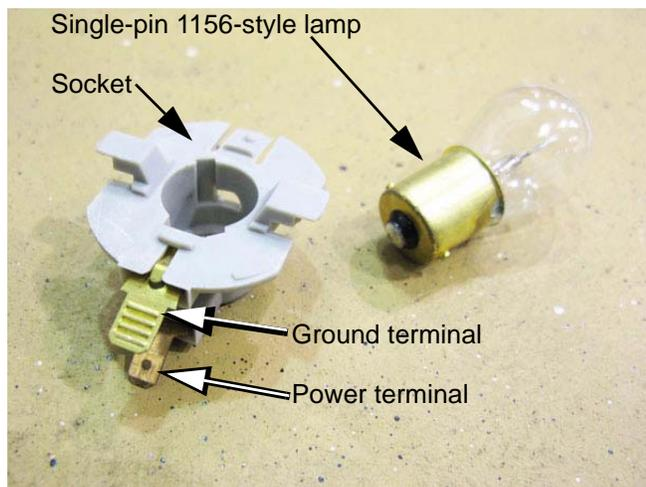

Figure 4.6
2. Rotate the bulb to release it from the socket. See Figure 4.6.